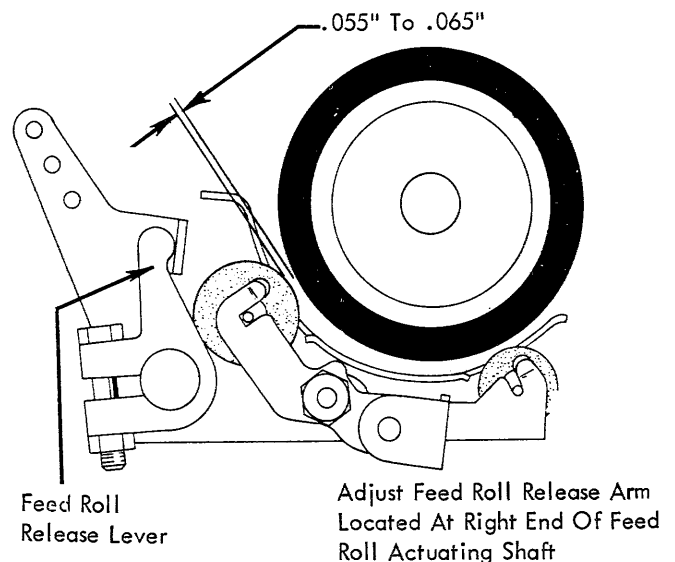

FIGURE 191. Paper Release Adjustment
- 7. Paper Release - Adjust the feed roll release arm (Fig. 191) to obtain a release clearance of .055" to .065" between the rear feed roll and the platen.
NOTE: The clearance should be the same at each end of the feed roll. The clearance can be equalized by adjusting either the left or right feed roll release lever (Fig. 191).